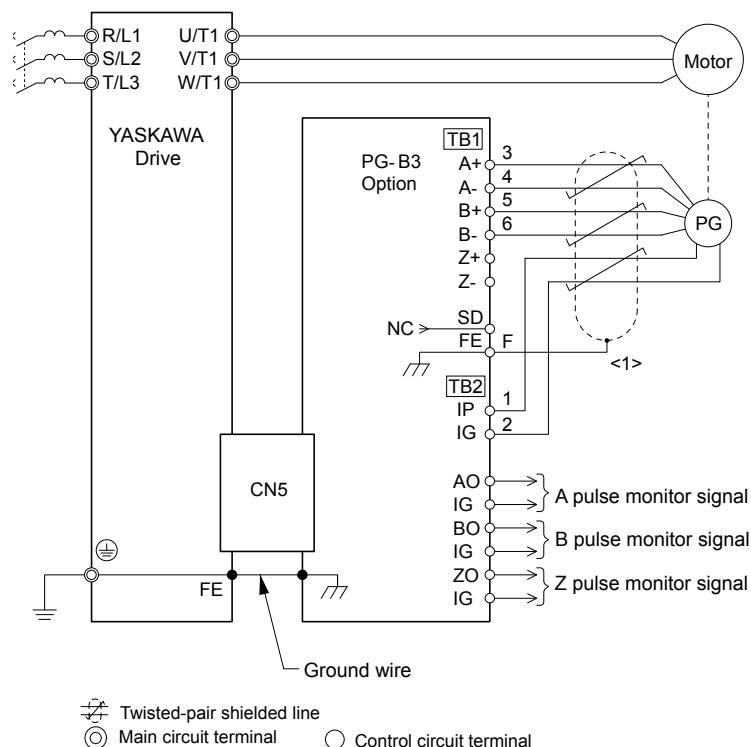
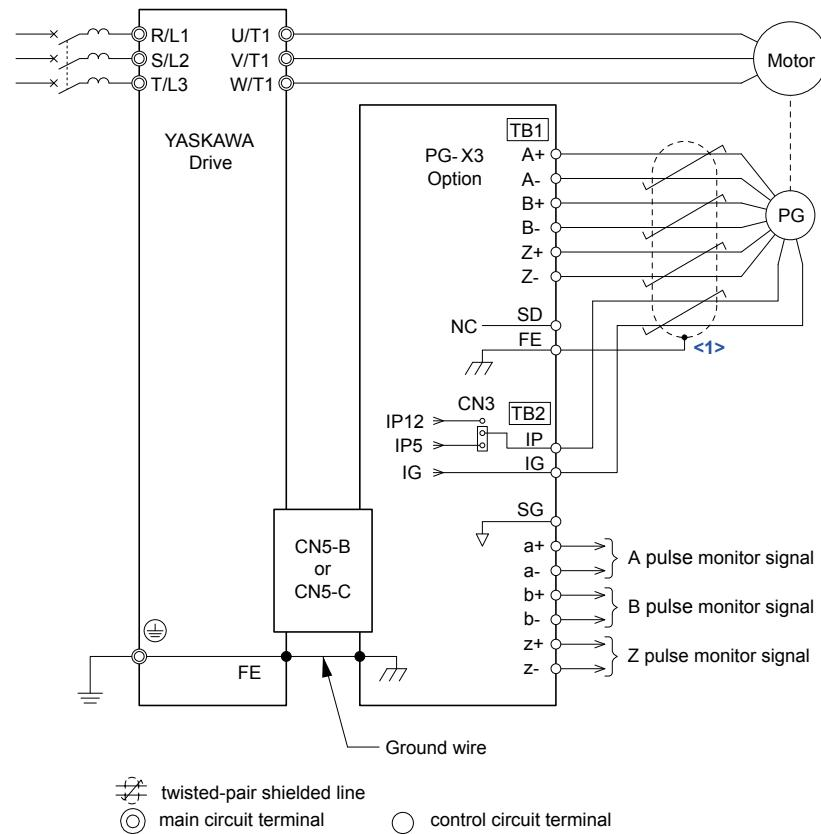

Figure 7.7 PG-B3 Option and Encoder Connection Diagram
Figure 7.8 PG-X3 Option and Encoder Connection Diagram
4. Wire the motor PG encoder to the terminal block on the option. Refer to **Figure 7.7** and **Figure 7.8** for wiring instructions.